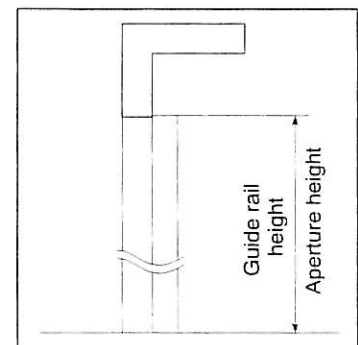

Fig 6
- Where headroom of 270mm or more is available guide rail length equals **aperture height** (see Fig 6).